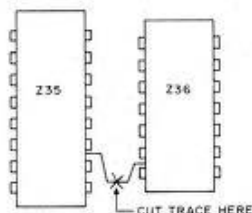

Fig. 7
- ● Cut the trace between Z36 pin 8 and Z31 pin 1 (see Fig. 7).